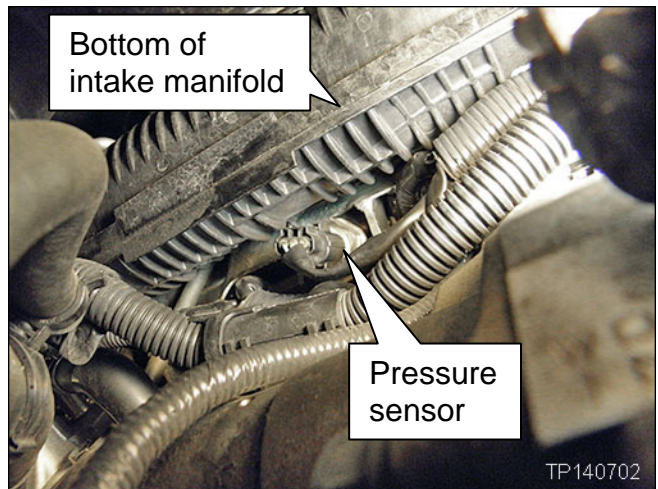

Figure 5
- As you look up toward the intake manifold you will see the fuel rail pressure sensor as shown in Figure 5 on the next page.
7. Locate the fuel rail pressure sensor shown in Figure 5.